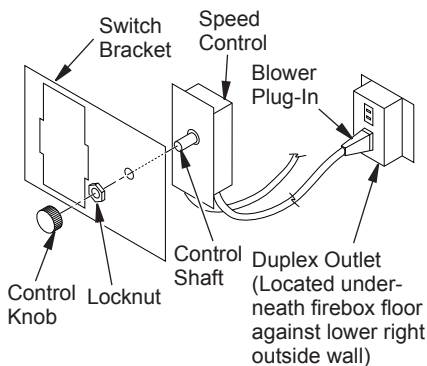

Figure 26 - Attaching Speed Control to Firebox
5. Mount speed control box to switch bracket by placing plastic control shaft forward through opening in switch bracket (see Figure 26).
5. Mount speed control box against mounting plate provided in lower fireplace cavity by placing plastic control shaft forward through round hole (see Figure 26, page 18).
6. While supporting speed control, secure control shaft with lock nut by pushing and turning lock nut with pliers clockwise until it is tight against mounting plate. Place control knob provided on shaft (see Figure 26, page 18).